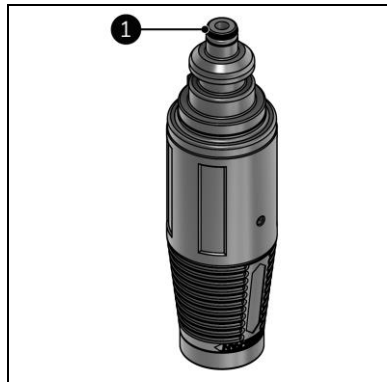

Figure 16
2. Apply Vaseline to the O-ring of the nozzle (Figure 16, pos. 1).